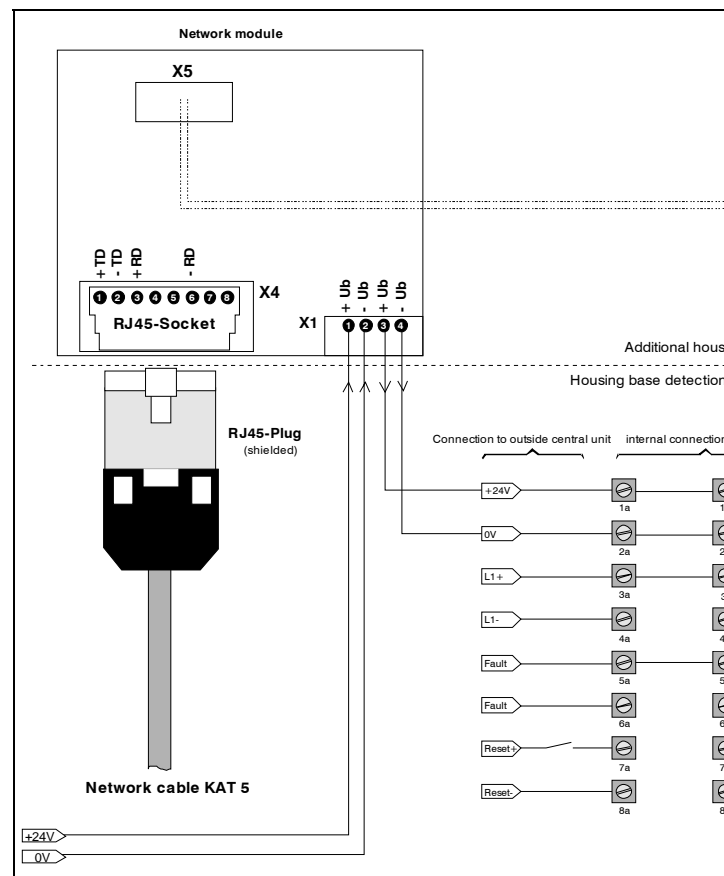

Fig. 5.22: Connecting the network board
- ❸ The network module is connected as per Fig. 5.22. Push the network cable into the RJ45 socket.
- ❹ Refit the cover using a screwdriver to screw the four screws on the device cover firmly.
The network module creates the connection between the bus system and the TITANUS MICRO·SENS®. Fig. 5.22 shows the electrical switching plan which must be followed for this in the aspirating smoke detector.